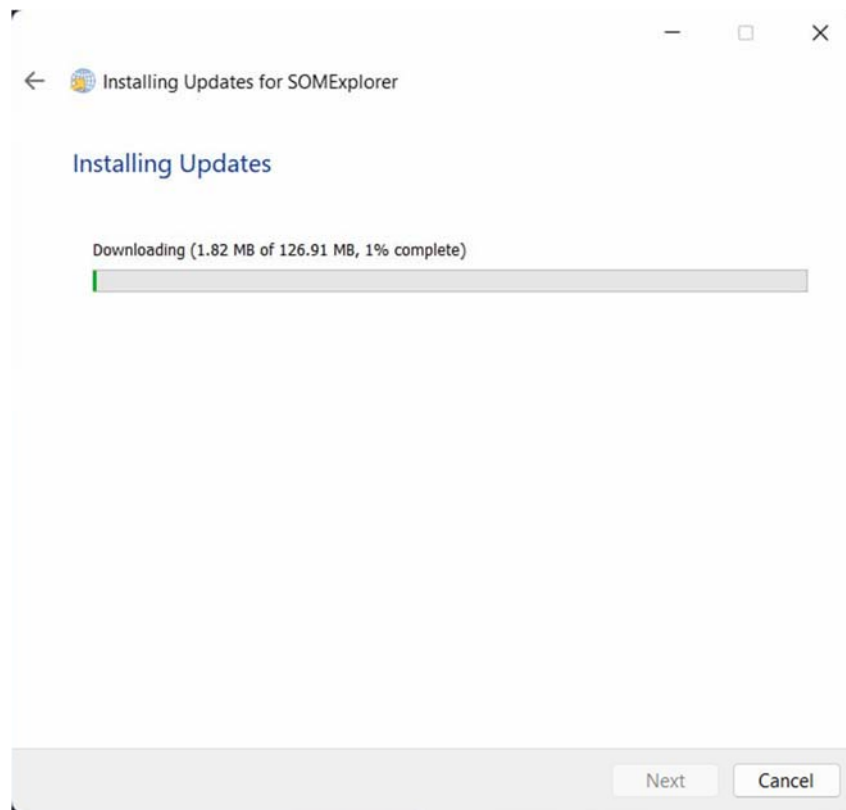

Figure 23 – Installation process for the updated version
8.3 Click the  button and the process of installing the updated version will begin, shown in Figure 23.